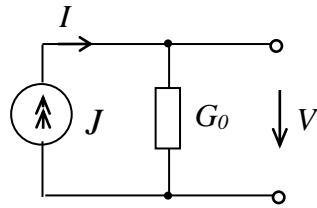
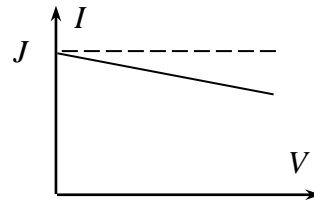

Fig.1.6
Fig.1.7
(fig.1.4) and parallel (fig.1.6). The external volt-ampere characteristic (fig.1.5) $V(I)$
Parallel substitution scheme (fig.1.6) consists of ideal current source J and internal conductivity G_0 , which characterizes the losses. The external characteristic of real source (fig.1.7) is described by the equation $I = J - G_0 U$. The external characteristic of ideal source $I = J$ is represented by dashed line at fig.1.7.
- current generator, when the current at the clamps of the source practically does not depend on the voltage, thus $I \approx J$, and this mode is close to s.c. In this mode $G_0 U \ll GU$ (fig.1.6), that's why the condition of it is $G_0 \ll G$ ($R_0 \gg R$).